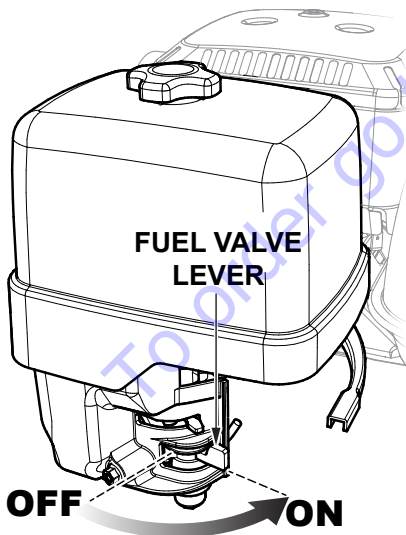

Figure 34. Engine Fuel Valve Lever (Open)
1. Place the engine fuel valve lever in the **OPEN** position (Figure 34).